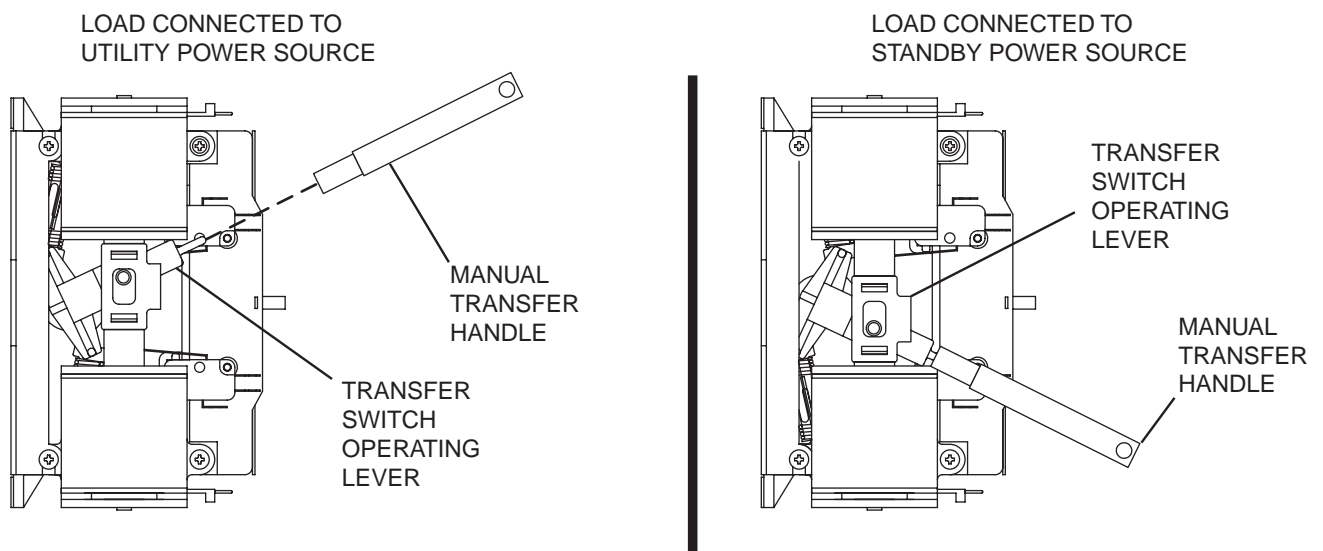

Figure 2. Manual Transfer Switch Operation
5. See Figure 2. Insert the un-insulated end of the handle over the transfer switch operating lever.